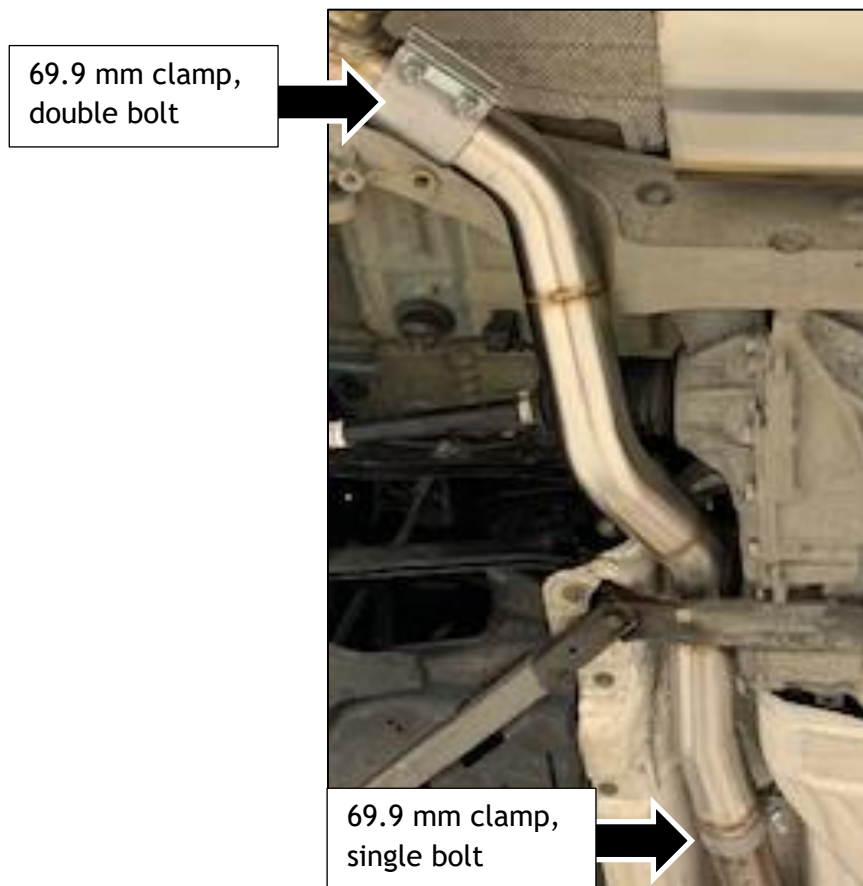

Figure 5: Inlet Tube
Refer to Figure 5 below for installation.
- 2) Ensure the bolt is facing down as shown in Figure 5.